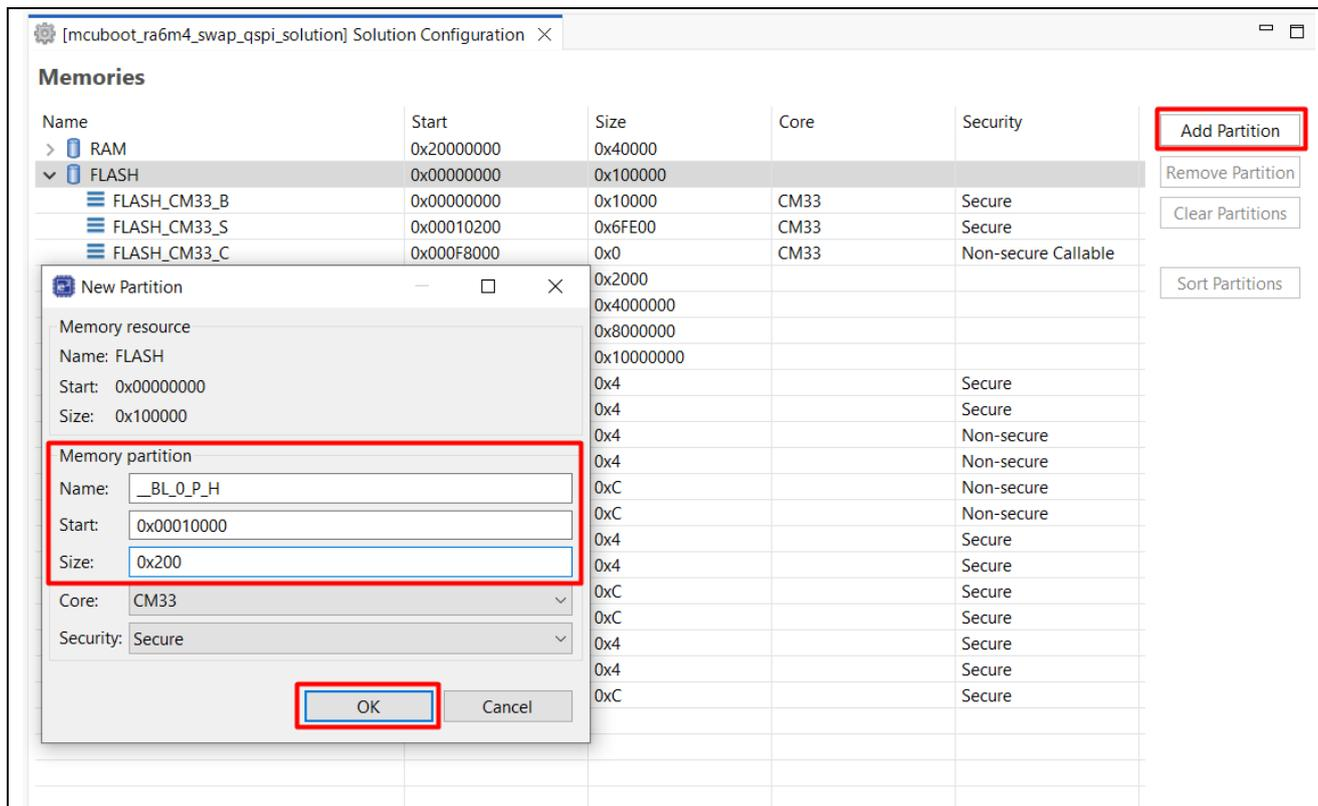

Figure 8. Add the MCUboot Memory Partition Labels
1. Add the MCUboot Memory Partition Labels, as shown in Figure 8.